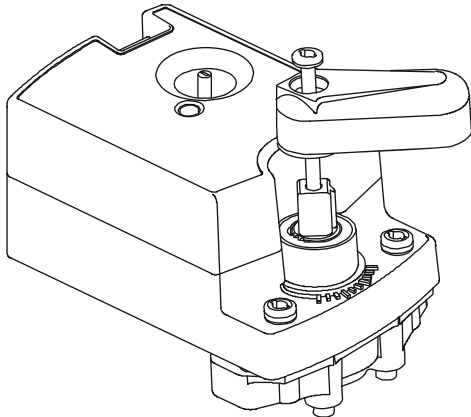

Figure 5: Installing the Handle
- 3. Place the handle to the top of the drive shaft (Figure 5). The handle is keyed on and can only be mounted in one orientation.
- verify that the valve fully opens and closes, using the gear release button on the actuator and the manual override handle, shown in Figure 5.